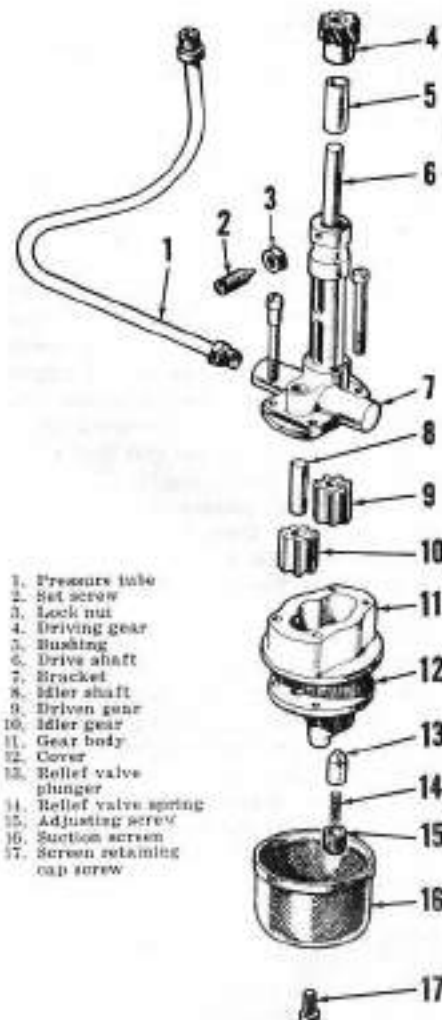

Fig. 49 — Exploded view of oil pump used on models 990 and 1200. Adjusting screw is secured by wire through hole in cover (12) and slot in adjusting screw.
On models 990 and 1200, remove the oil pan and the oil suction screen (16—Fig. 49) and the wire locking adjusting screw in place. Then remove the adjusting screw (15), spring (14) and valve plunger (14).
67. OVERHAUL PUMP. Disassembly of pump is obvious after examination of unit and with reference to Fig. 48 for 3-cylinder models or to Fig. 49 for models 990 and 1200. Refer to the following specifications:
Bushing is pre-sized and should not require reaming if carefully installed. Be sure to align oil hole in bushing with oil hole in pump housing. Note that the drive gear (4—Fig. 49) on models 990 and 1200 and the pump driving gear (14—Fig. 48 or 9—Fig. 49) are retained to shaft by press fit only.